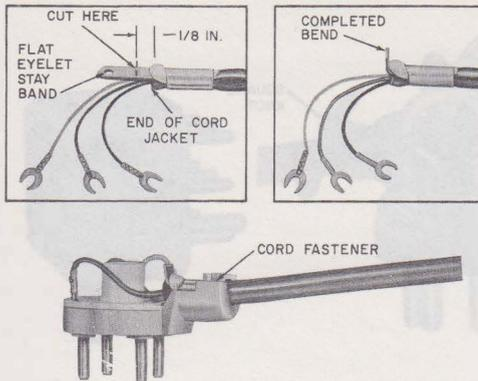

Fig. 17—Connecting Current Model D3BU or D4BP Cord to Early Model 505A Plug
- (1) Cut flat eyelet stay band approximately 1/8 inch from end of cord jacket using 8-inch sidecutters, or equivalent (Fig. 17).
- (2) Make a right angle bend in the remaining length of stay band in the direction away from the cord conductors.
- (3) Position the mounting cord into the cord channel of the block, as shown in Fig. 17.
- (4) Fit the cord fastener into the groove in the cord channel and press until it snaps into position.
- (5) Connect the mounting cord spade tips in the socket-type terminals.
- (6) Dress the conductors so they will not obstruct the center of the cord tip guide.
- (7) Position the cap assembly on the block so that the right angle bend of the stay band is supported by the inner surface of the cap assembly; check that no cord leads are pinched.
- (8) Insert cover screw and tighten.